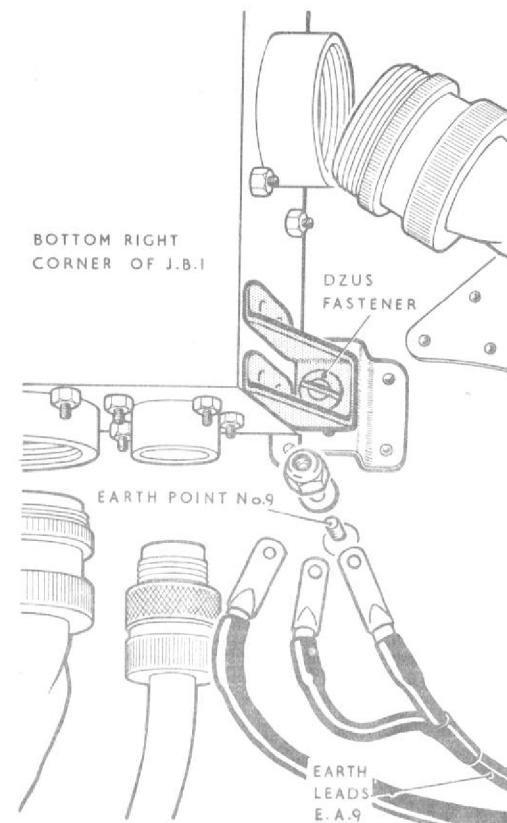

Fig.1. lower attachments and earth point 9
lower right hand corner of J.B.1. (fig.1).
- (4) Disconnect all the plugs and sockets on the cable assemblies at J.B.1. Seal off the plugs and sockets with approved caps and covers and stow the cable assemblies away from the box.
- (5) Release the two fasteners at the lower corners of the box (fig.1) and lift the